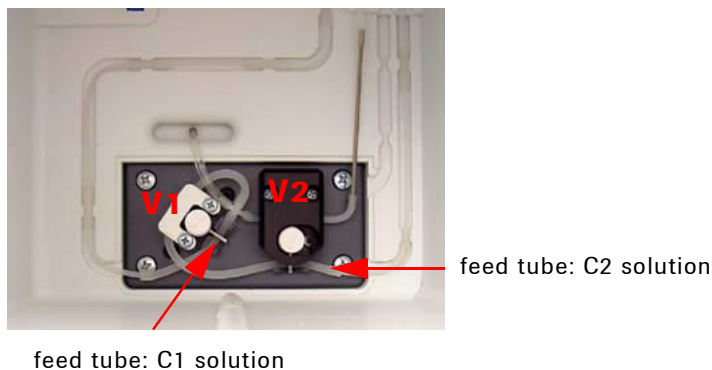

Fig. 18
- Slide the feed tube of the C2 solution under the tube clip (valve V2) (see Fig. 18). Both of these valves are located on the back wall of the bottle compartment.